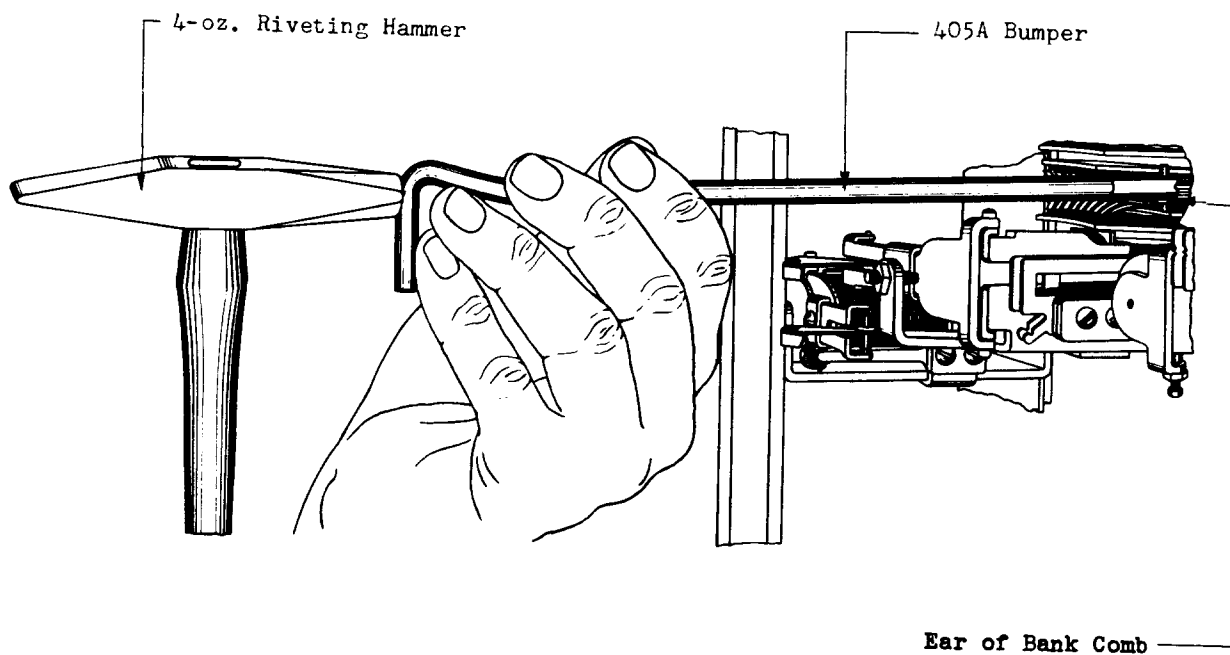

Fig. 15 — Adjusting for Plunger Tip and Bank Comb Tip Clearance
- (1) If the plunger tip does not clear the bank comb teeth when the plunger fantail is engaged with the guide shaft and the guide shaft is moved manually from the first to the tenth trunk, it may be due to an individual bank being out of alignment, to the stroke adjustment of the switch being incorrect, or to either or both of the bank rods which support the banks being located too near to the switch. If rubbing of the plunger tip on the bank comb teeth is peculiar only to one switch, it is an indication that the stroke of that switch is incorrect or the bank is located too close to the switch. If rubbing occurs on several switches, the fault may be due to the location of the bank rods.
- (2) When rubbing occurs on one switch only, it may be due to the plunger tip rubbing either on one or on both ends of the bank comb. To adjust for either condition, place the pin of the No. 405A bumper in the ear of the bank comb and tap it lightly with the 4-ounce riveting hammer as shown in Fig. 15, so as to move the comb further away from the plunger tip. If the plunger rubs on both ends, make this adjustment on both ends of the comb.
(1) If it is possible to direct the plunger into an adjacent trunk under the conditions specified, it is an indication that the bank comb is located too far from the switch. To correct this condition change the position of the bank comb by placing the pin of the No. 405A bumper in the ear of the bank comb as shown in Fig. 15. Move the comb towards the switch by tapping the bumper lightly with the 4-ounce riveting hammer until the plunger tip just clears the bank comb as the plunger oscillates under control of the guide shaft.
(2) Where it is possible to force several plungers on one half of a shelf into adjacent trunks, it is an indication that the bank rods are located too far from the switch. To change the position of the bank rods remove the line switches adjacent to the adjusting bushings on that half of the shelf as described in procedure 3.002. Loosen the locknuts on the adjusting bushings with the No. 418A wrench and move the bank rods towards the switch by turning the adjusting bushings in a counterclockwise direction with the No. 417A wrench. Tighten the locknuts and check for clearance between the plunger tips and bank comb teeth.
(3) Before remounting the switches removed in (2), check requirement 2.21. Remount the switches as covered in 3.003. Check the switches to see that they meet all other requirements.